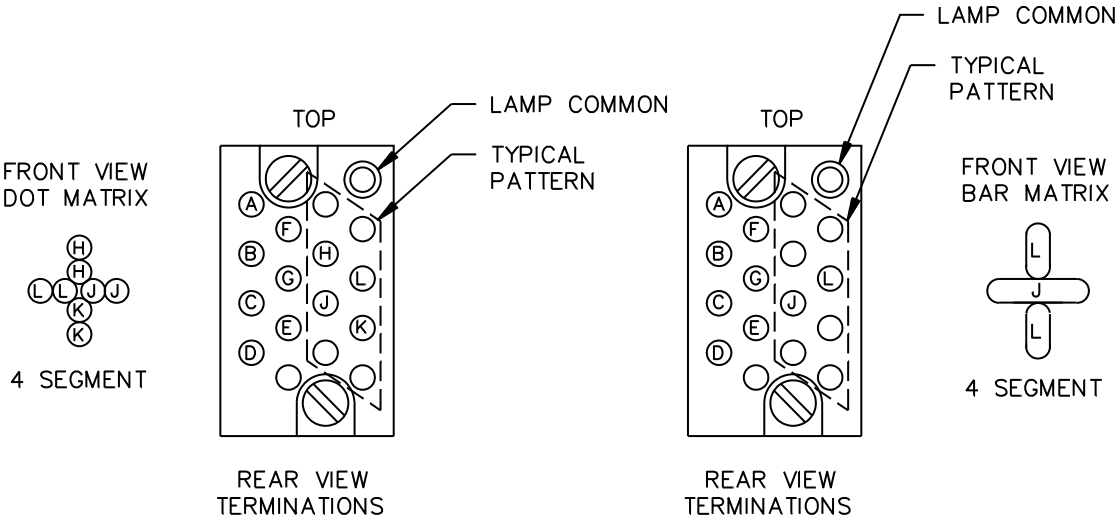

FIGURE 3. Four segment sign display (dot matrix and bar matrix).
- 1/ See figure 3 for four segment sign display output letter assignments.